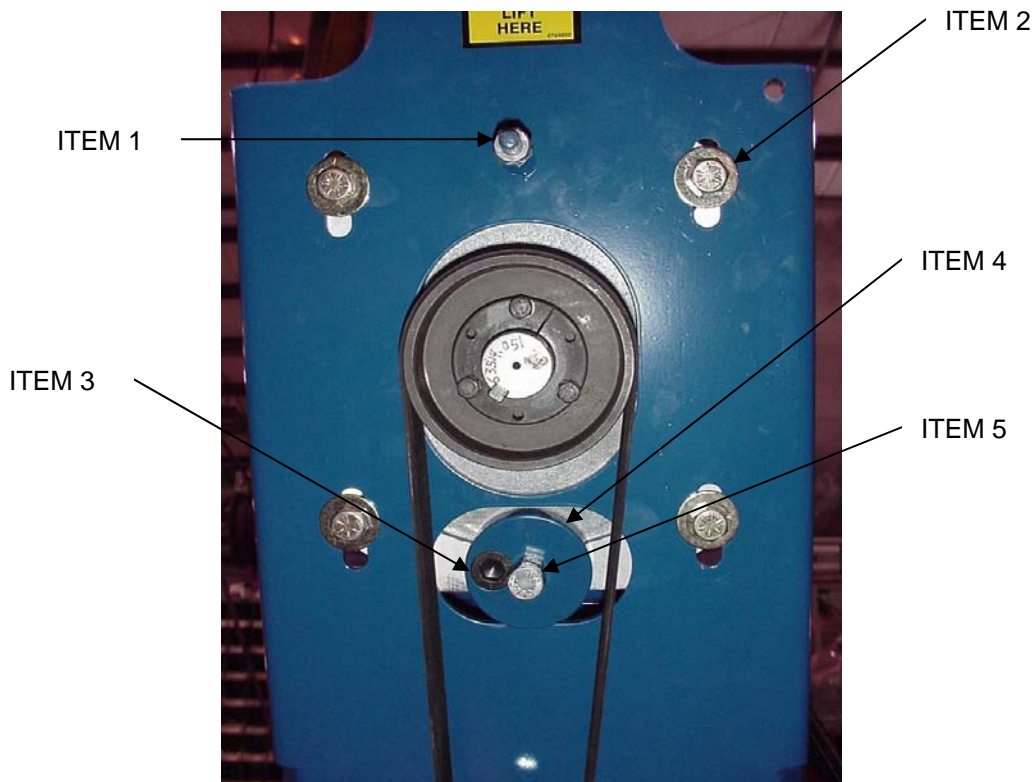

FIGURE 8.2 Wheel Drive Components
See Figure 8.2 "Wheel Drive Components" for part identification.
7. **Before replacing the belt, inspect the condition of the sheaves.** Dusty, rusty or worn sheaves can reduce the belt life up to 50%. To replace and tension the belt, place belt around sheaves and rotate the hex head bolt (ITEM 5) on the eccentric sleeve (ITEM 4) **clockwise** to increase the belt tension. See Figure 8.2 "Belt Tension Requirements" for correct belt tension. Never force the belt on the sheaves. Forcing the belt can cause internal damage to the belt. **BE SURE THAT THE BELT IS SECURE IN THE GROOVES OF THE SHEAVES BEFORE CONTINUING.**